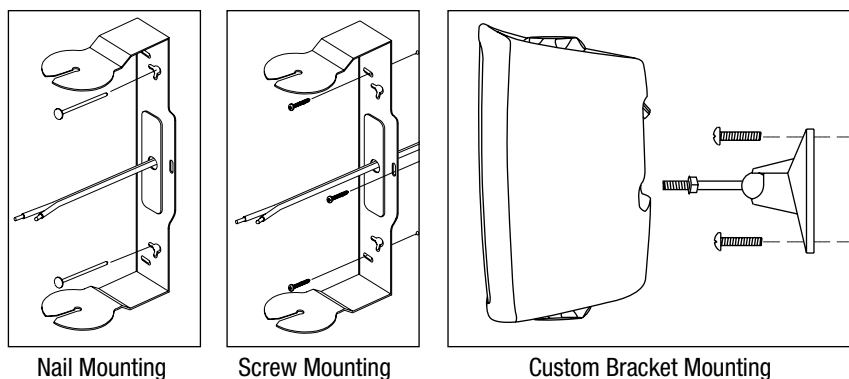

Figure 8. The OS loudspeakers can be mounted three ways
- 1. If the loudspeaker is never going to be exposed to sudden accidental impacts, wind, waves, or earthquakes, you can simply hang it on a nail using the nail hole(s) on the bracket (see **Figure 8** on the next page).*
- 2. The safest and most secure way to mount the loudspeaker is by screwing it to the mounting surface using your own hardware (suitable for the surface you are mounting to) and the bracket supplied with the loudspeaker (see **Figure 8**).*
- 3. There is a threaded brass insert (1/4" – 20) on the back of the OS loudspeakers for attaching a custom bracket (see **Figure 8**). This allows you to position the loudspeaker at unusual angles or varying distances from the mounting surface.*